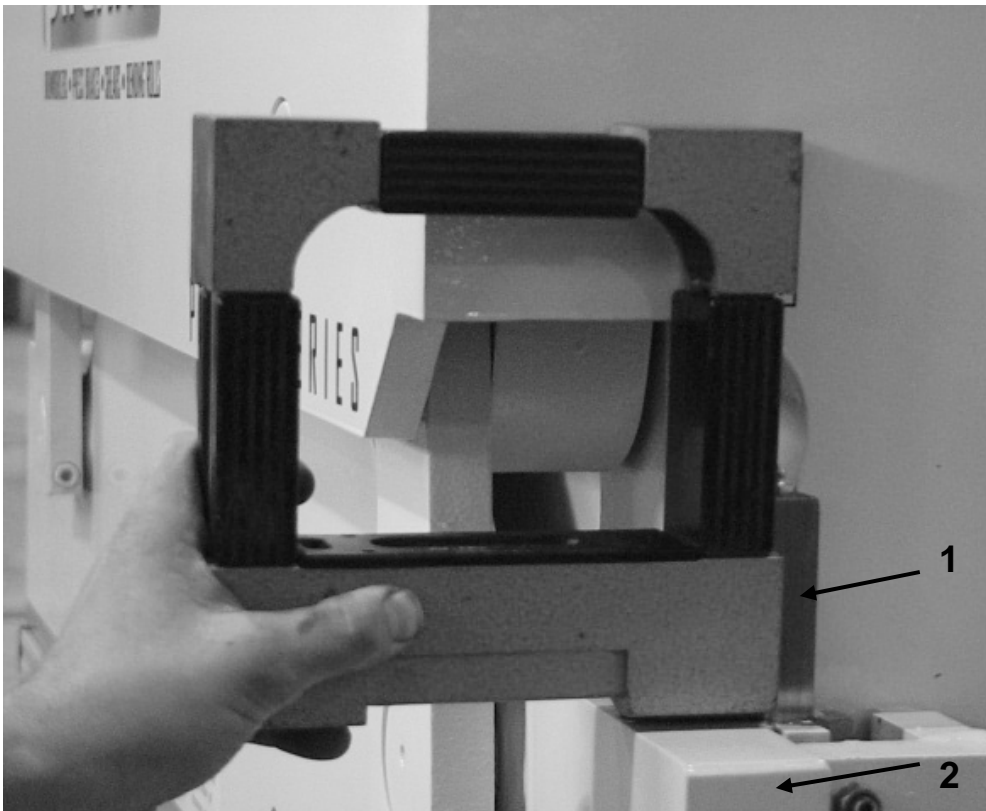

Figure 3: Precision Leveling Detail
3. Using a machinist square level having an accuracy of .0005" inch per foot graduation, place the level firmly against the front face of the right vertical ram slide as shown. (*See Figure 3 Item1*)